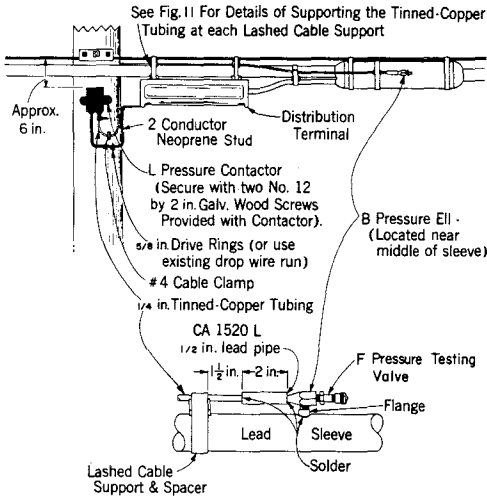

Fig. 6—Strand-Mounted Terminal
5.05 Under some conditions, contactor mounting on a pole or wall may be preferable in order to make the contactor more accessible. Refer to Fig. 6 through 10 for typical examples of mounting the L pressure contactor.
5.10 Make a soldered joint connection between the B pressure ell and the tubing, using a 2-inch length of CA-1520L lead pipe as illustrated in Fig. 6.